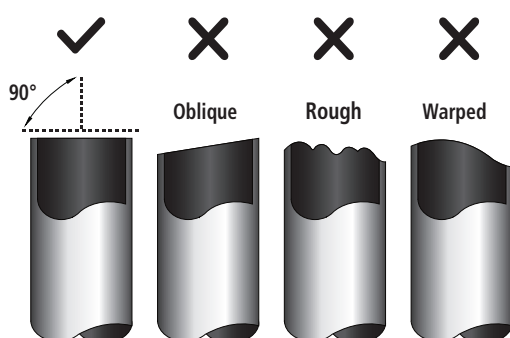

Fig. 7.1
- Make sure that the pipe is cut at a perfect 90° angle. Refer to Fig. 7.1 for examples of bad cuts